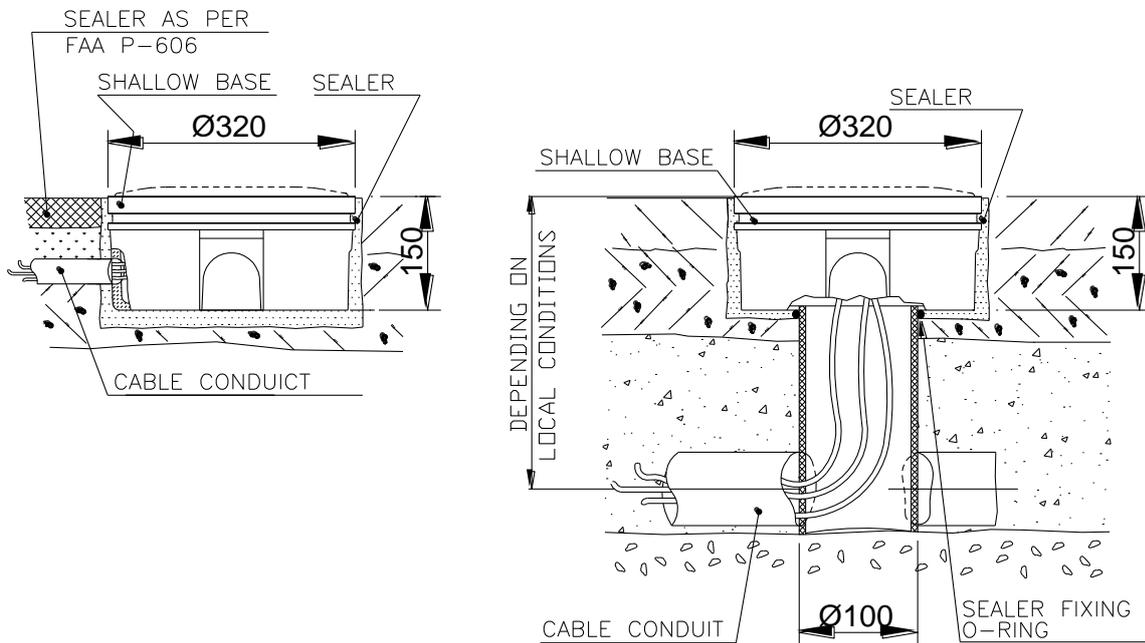

Figure 17 – 12" shallow base for side or bottom ducts (method "B")
- ▣ Method “B” – cable leads to be laid in cable ducts (Figure 17)